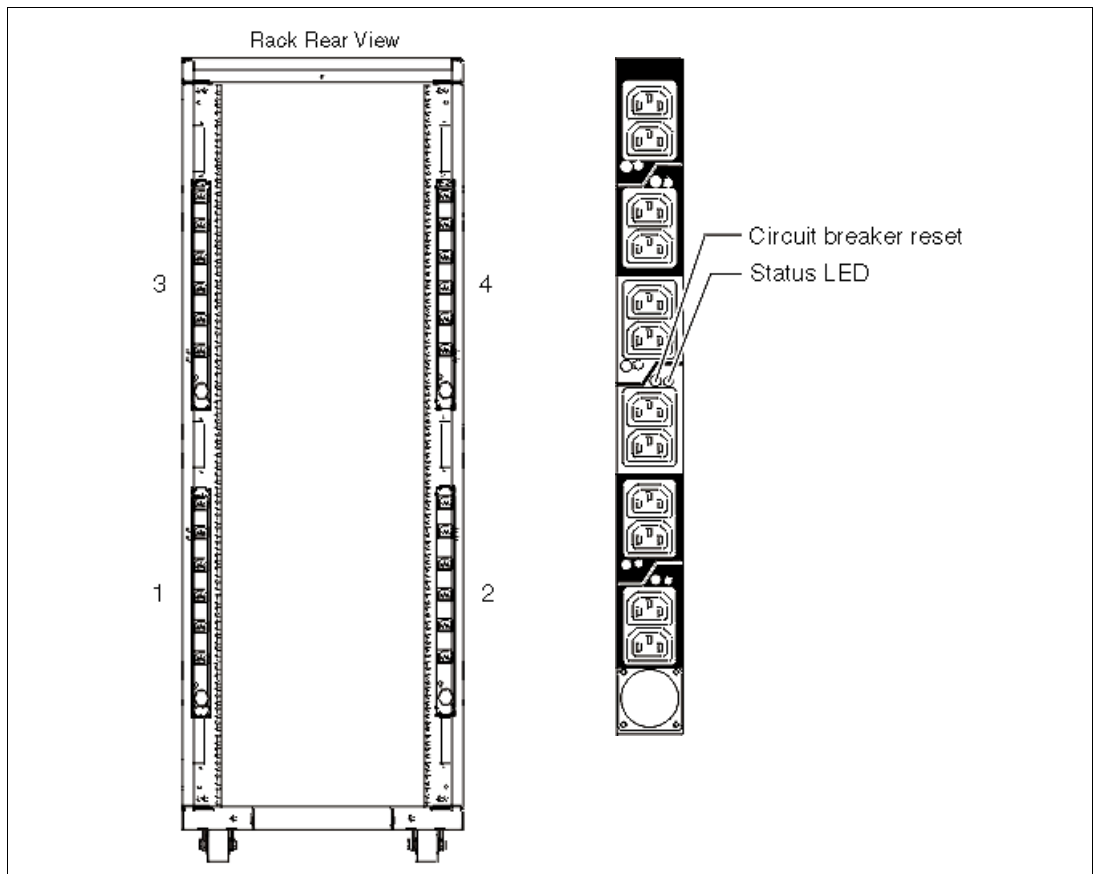

Figure 1-3 PDU placement and PDU view
- ▶ Up to four power distribution units (PDUs) can be mounted in the PDU bays (see Figure 1-3 on page 17), but others can fit inside the rack. See 1.11.7, “The ac power distribution unit and rack content” on page 17.
Four PDUs can be mounted vertically in the back of the T00 and T42 racks. See Figure 1-3 for the placement of the four vertically mounted PDUs. In the rear of the rack, two additional PDUs can be installed horizontally in the T00 rack and three in the T42 rack. The four vertical mounting locations will be filled first in the T00 and T42 racks. Mounting PDUs horizontally consumes 1U per PDU and reduces the space available for other racked components. Mounting PDUs horizontally, use fillers in the EIA units occupied by these PDUs to facilitate proper air-flow and ventilation in the rack.